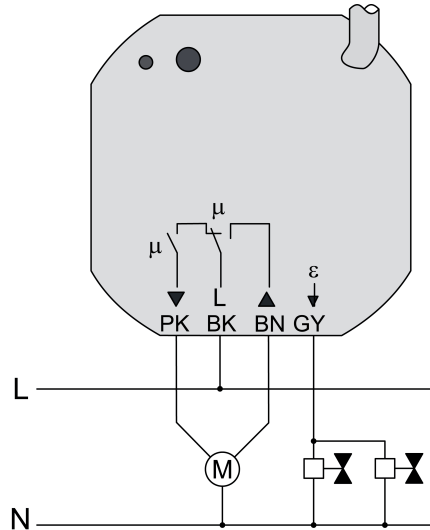

Figure 7
- Connect the load (Figure 7). Use the supplied sprung screwless terminals. Flexible cable ends must be tin-plated.